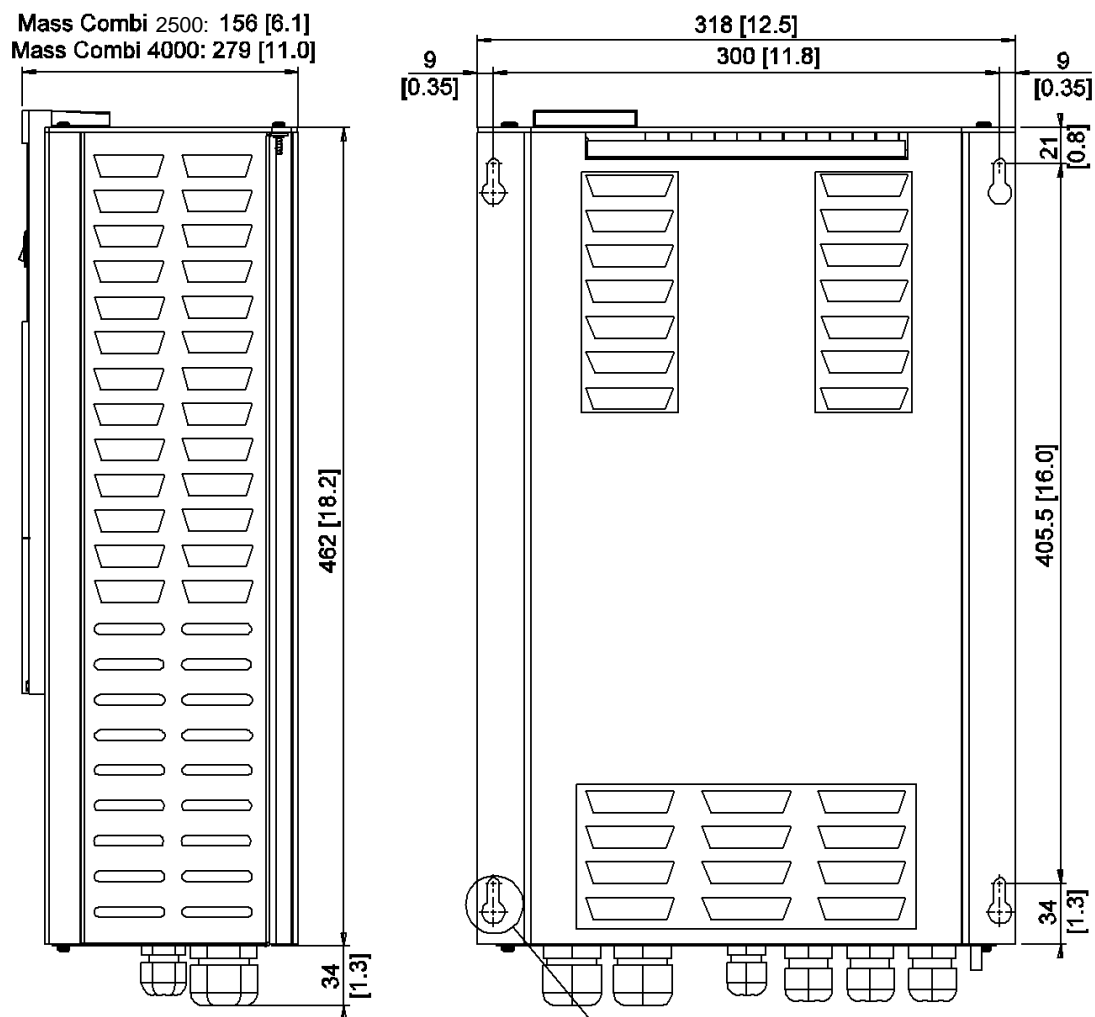

Figure 24:
- 1 Determine for the four mounting spots on the basis of the outline drawings (figure 24)